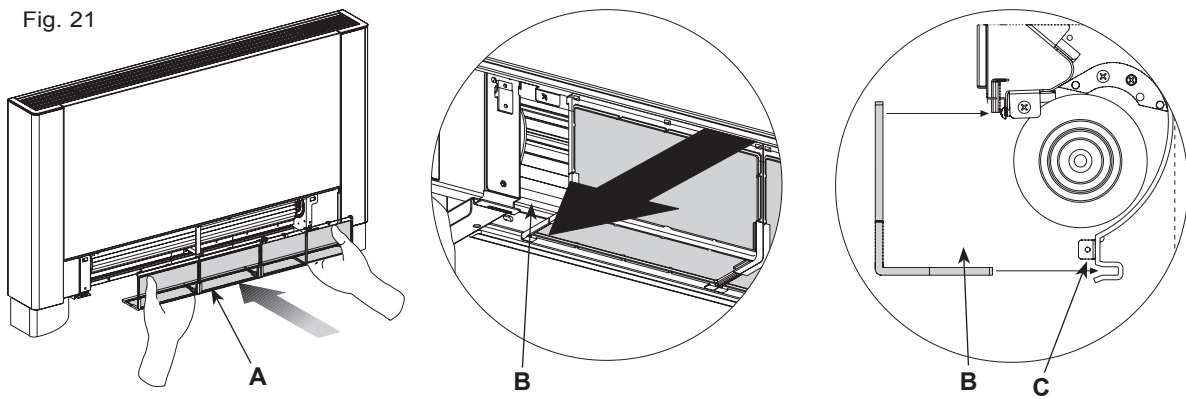

Fig. 21
- Reassemble the filter (fig.21 ref. A) taking care to insert the lower side (fig. 21 ref. B) into its groove.